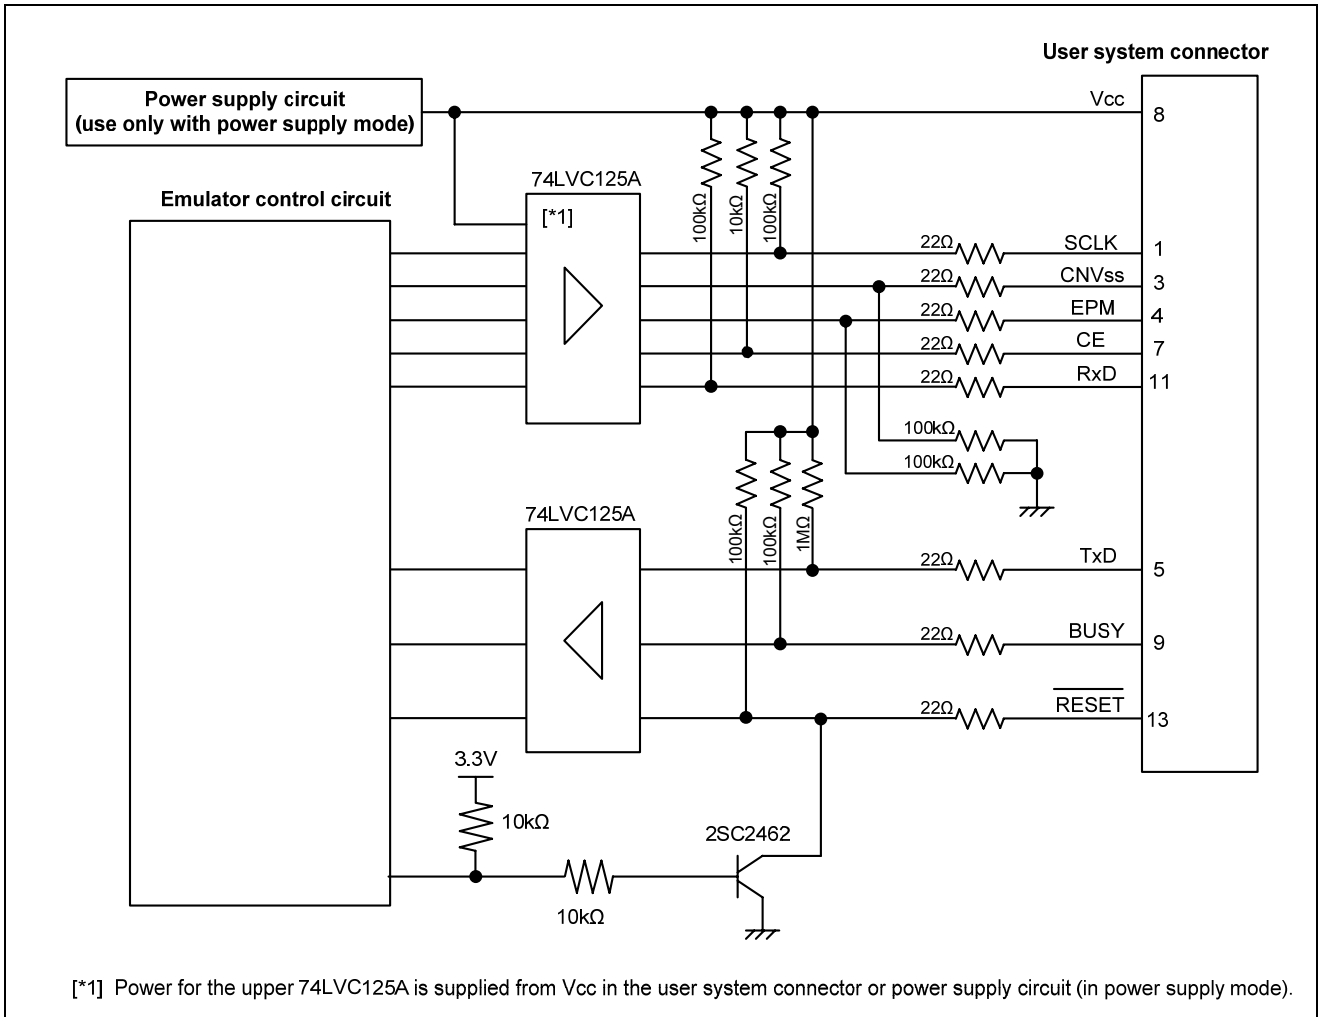

Figure 5.7 Interface Circuit Inside the E8 Emulator (For Reference)
1. Pins P64, P65, P66 and P67 are used exclusively by the E8 emulator. Connect the E8 emulator to the MCU pins. Connect pins P65, P66 and P67 to the E8 emulator after pulling up the MCU pins. Pull up or down on P64 according to the MCU pin state after disconnecting the E8 emulator. P64 may be in a Hiz state while the E8 emulator is active. Therefore, set the pin resistance value so the voltage cannot be at the midpoint potential, depending on the voltage dividing of the resistance inside the E8 emulator (Figure 5.7).
P86, or P85 and P16 may be in a Hiz state while the E8 emulator is active. Therefore, set the pin resistance value so the voltage cannot be at the midpoint potential, depending on the voltage dividing of the resistance inside the E8 emulator (Figure 5.7).
9. Figure 5.7 shows the interface circuit in the E8 emulator. Use this figure as a reference when determining the pull-up resistance value.